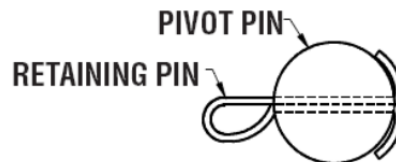

Figure 4
3. Make sure all pivot pins are in position and that all retaining pins are assembled correctly (See Figure 4).